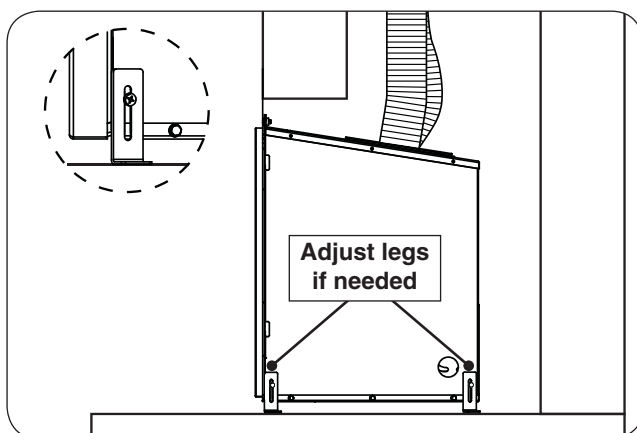

Fig. 26-4 Use adjustable legs to level (if needed)
6. The unit has four adjustable legs for leveling purposes. If required, adjust each leg as needed to level the unit. Use a Phillips screwdriver to loosen, move the leg to the desired height, and then tighten the screws. See Fig. 26-4.